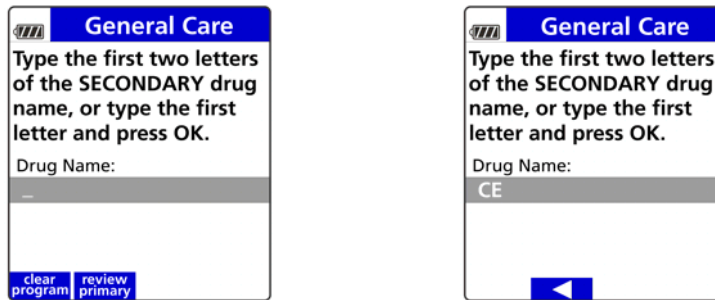

Figure 45. Secondary Drug Identification Screens.
- Using the keypad, enter the first two letters of the drug name. All drug names beginning with those two letters will appear. See Figure 45.
- Press the arrow soft keys to move the cursor to the desired drug name and press **OK**. See Figure 45.